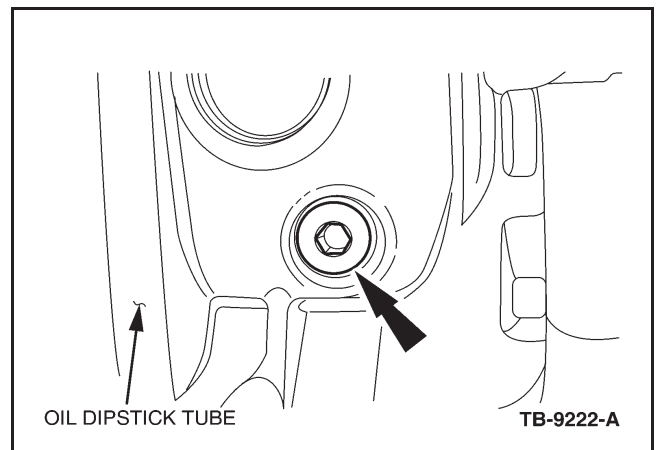

Figure 10 - Article 08-23-1
7. Remove the left hand (LH) cylinder block drain plug and drain the cylinder block. (Figure 10)